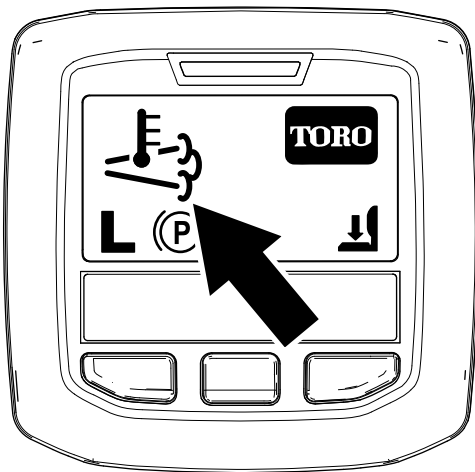

Figure 37
- The high exhaust-temperature icon  displays in the InfoCenter (Figure 37).